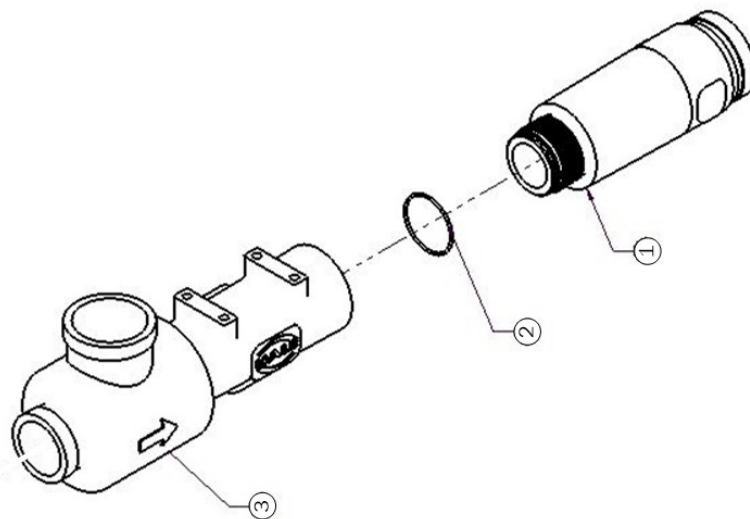

Figure 15. 225 GPM Eductor Assembly
If the 225 GPM eductor outlet requires replacement or if the outlet is being removed to facilitate nozzle replacement, perform the following procedure. See Figure 15.
If the 225 GPM eductor outlet was removed, install the outlet as follows. See Figure 15.
- B. Match mark or note flowmeter orientation (specifically - direction of flow indicator). See Figure 15.
- C. Using a 7/64-in Allen wrench, remove four (4) flowmeter mounting screws.